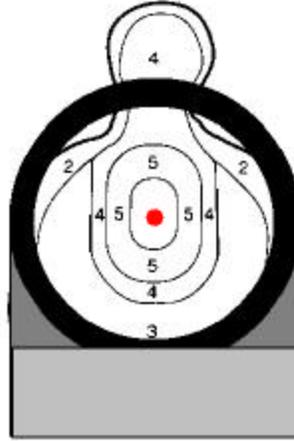

Figure 3
- f. Sight picture with ACOG sight. The ACOG reflex sight is designed for close combat and quick target acquisition while providing enhanced aiming. It has a tritium illuminated dot for night and low light use. Using the ACOG Reflex sight, place the amber aiming point on the desired area of impact (the center mass of the target). (See figure 3.)